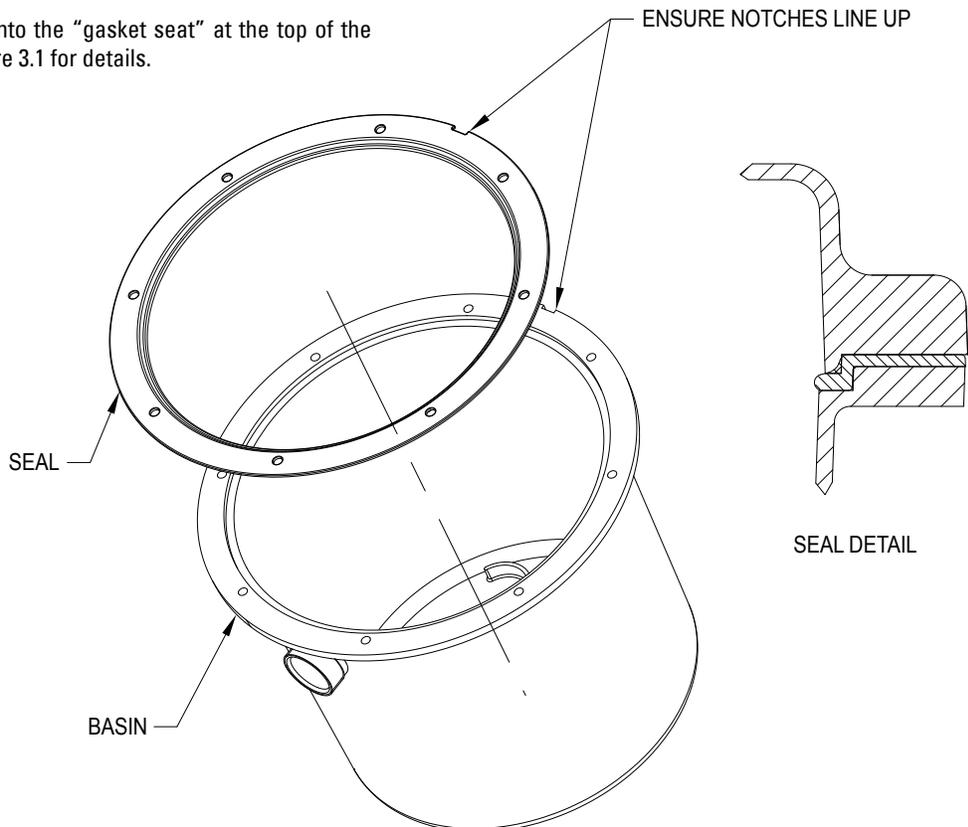

Figure 3.1
- 3.1) Install the gasket into the "gasket seat" at the top of the basin, refer to Figure 3.1 for details.